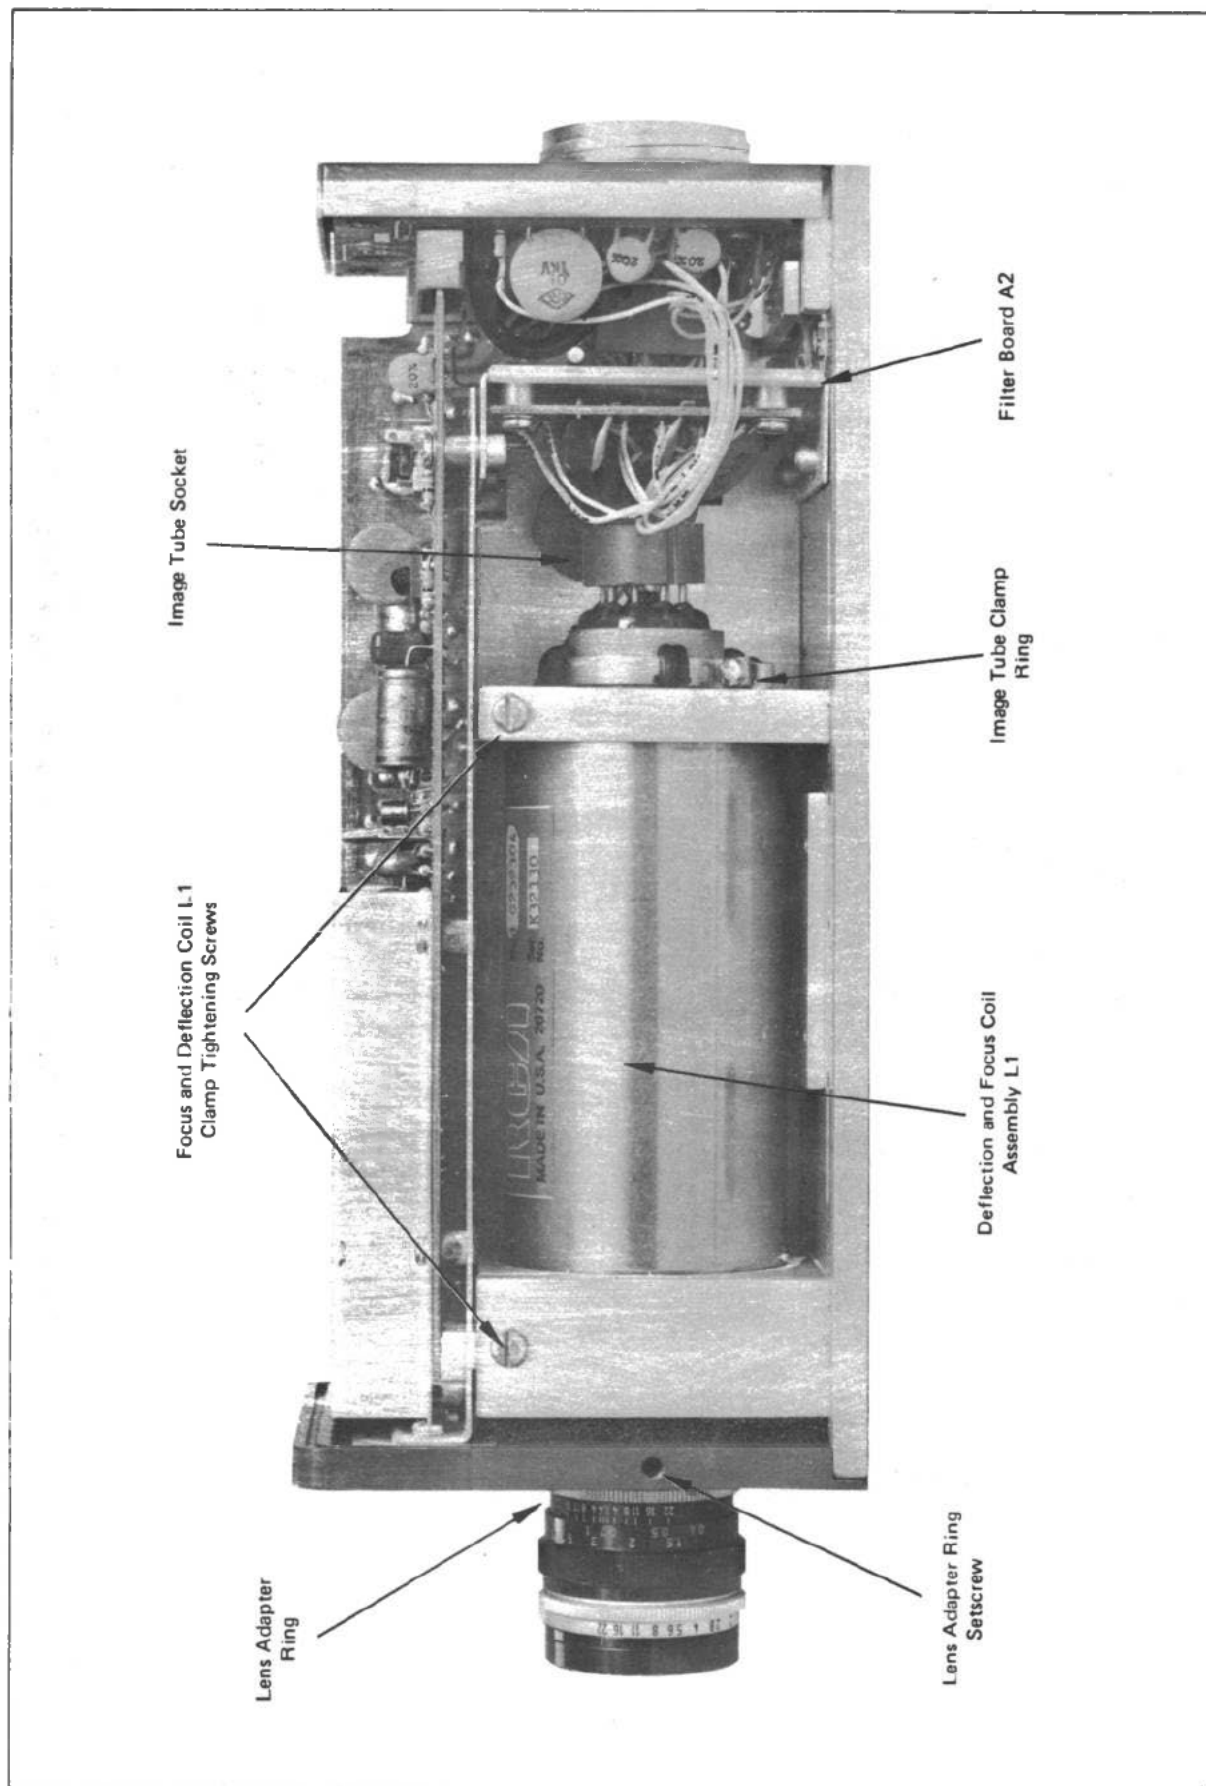
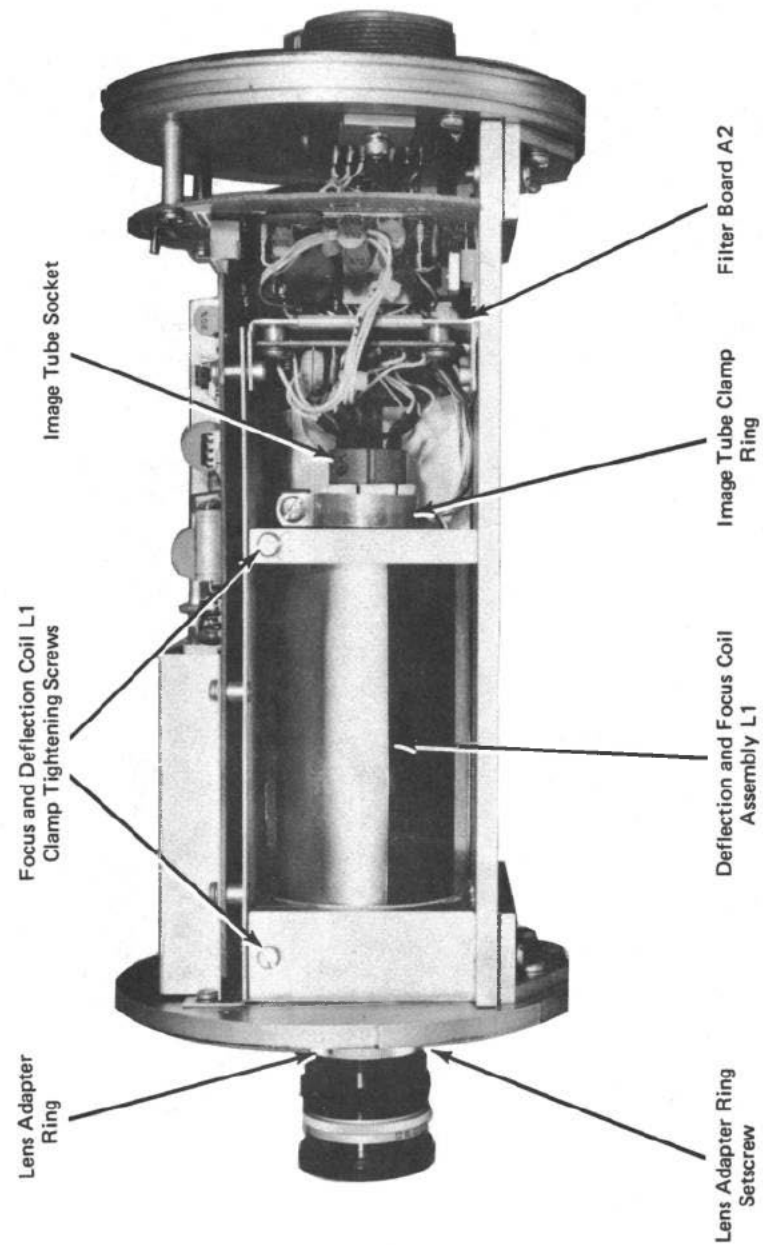

Figure 2-2. Interior View of 7120 Series Camera Facing Right Side.
Figure 2-5. Interior View of 7210B Series Camera Facing Right Side.
- c. Screw the lens finger-tight into the lens mount. Sharp focus can be attained only if the distance from the center of the lens to the face of the image tube is correct. This distance is adjustable with a lens adapter ring (Figure 2-2, Section II). If it is impossible to obtain sharp focus by adjustment of the focus ring on the lens itself, or if the calibrated focus setting on the lens when in focus does not correspond with the actual lens-to-scene distance:
1. Loosen with a hex wrench the setscrew (Figure 2-2, Section II) that holds the lens adapter ring in place.
- a. If camera is exposed lens type, remove plastic escutcheon button if one is plugged into front plate lens well to protect vidicon target. Then, install lens in camera by screwing it clockwise until fingertight, loosen setscrew (Figure 2-5) that locks C-mount lens adapter ring in place. Proceed to step c.
- c. Loosen the lens-adapter ring setscrew (Figure 2-2 for 7120 and Figure 2-5 for 7210B).
- d. Loosen the screw on the image tube clamp ring (Figure 2-2 for 7120 and Figure 2-5 for 7210B).
- k. Focus the camera on a scene. If the picture at monitor is tilted from normal, loosen the deflection yoke assembly clamp-tightening screws (Figure 2-2 for 7120 and Figure 2-5 for 7210B) and rotate the deflection yoke assembly so the picture is properly oriented. Then retighten the screws. If the picture at the monitor cannot be brought into sharp focus with the lens on the camera, correct by adjustment of the FOCUS control on the front panel of the 7900 Series Camera Control. If the picture fails to fill out the monitor raster properly then perform the picture size and linearity adjustments outlined in Paragraphs 2-12 and 2-13.